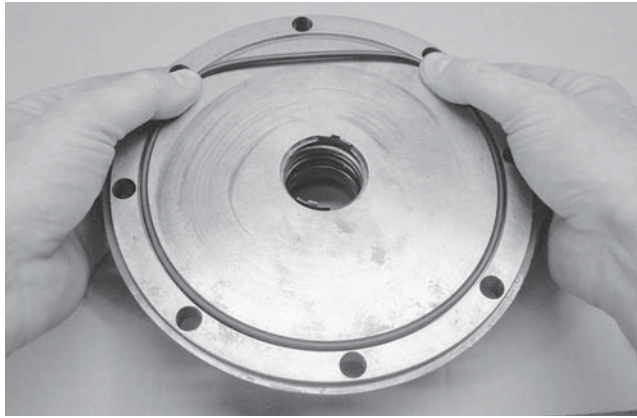

Figure 8
1. Reassemble the first side of the pump by inserting a new head O-ring into the groove of the head. Lightly lubricate the O-ring to facilitate installation. Start on one side of the groove and stretch the O-ring into the groove (see Figure 8).